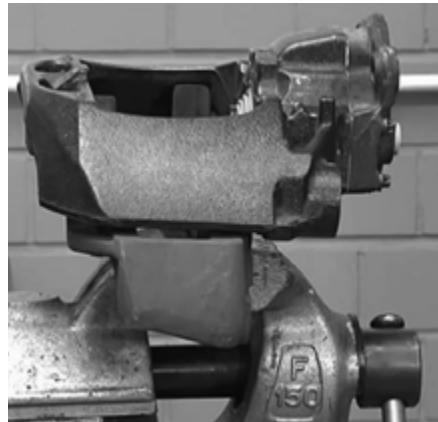

Figure 47: Brake mounted in vice
2. **Use** a suitable device to hold brake while servicing the brake assembly (Figure 47).
NOTE: The carrier should be in the holding device for reassembly (Figure 47 on page 24).